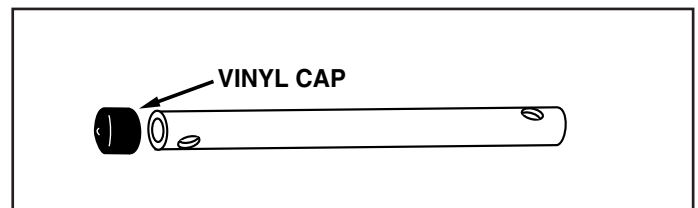

FIGURE 17
- Assemble a vinyl cap onto each bag arm tube as shown in figure 17.